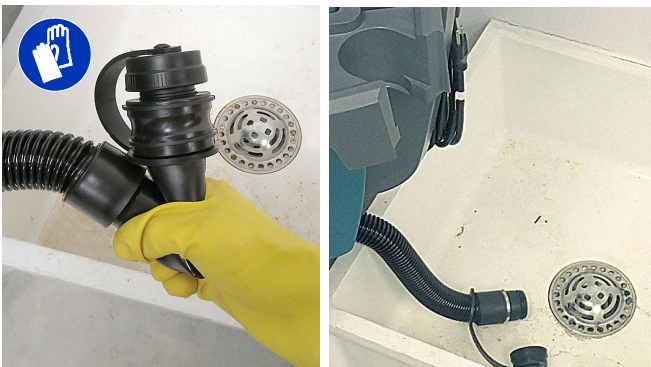

FIG. 85
2. Remove the recovery tank drain hose from storage hook and pinch hose as shown (Figure 85). Over a drain basin, remove cap and slowly release the pinched hose to drain.